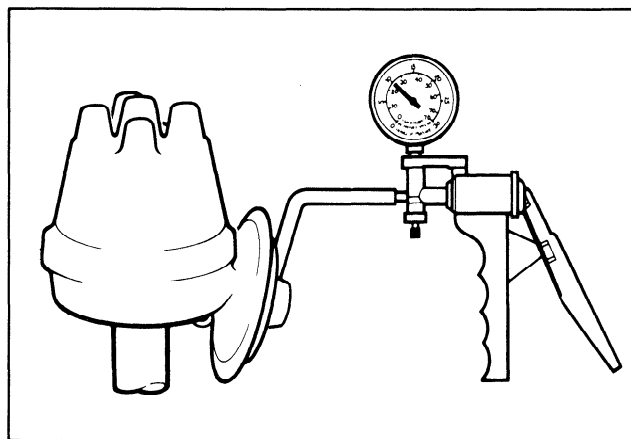

FIG. 6 Vacuum Pump Connected to Distributor
1. Connect pump directly to distributor (Figure 6).